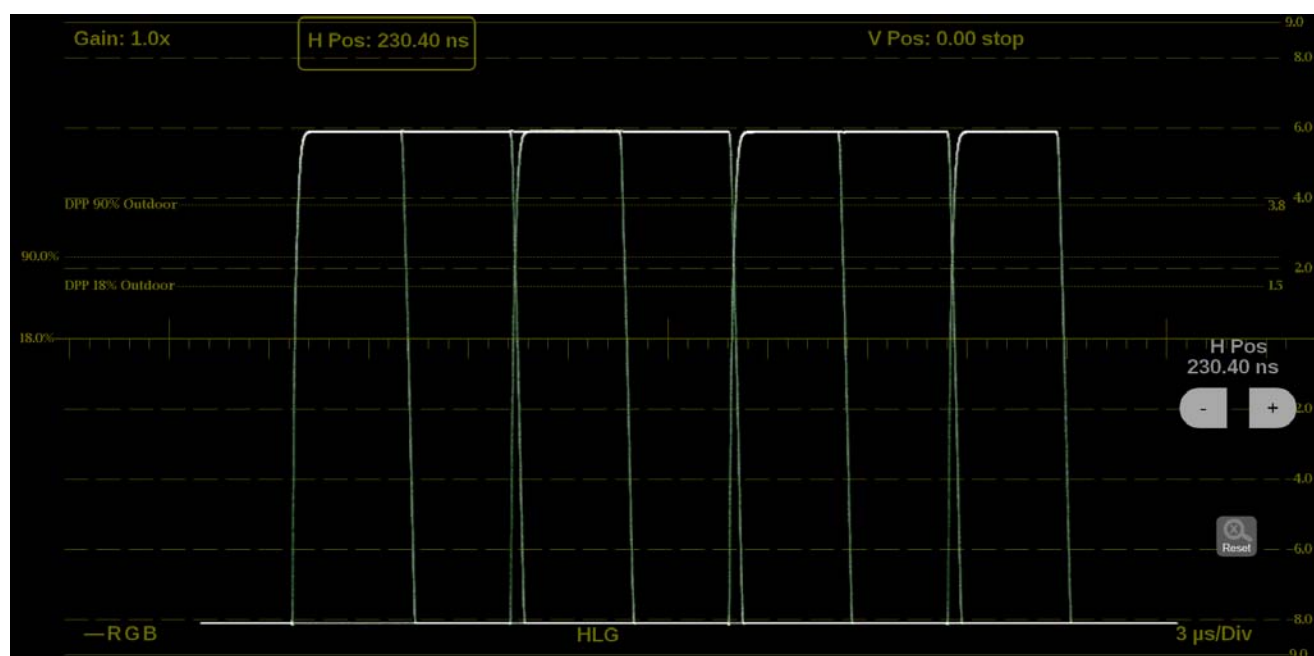

Figure 85: Stop Display on-screen tools – horizontal position
1. Touch the **H Pos** button to allow adjustment of the horizontal trace. (See Figure 85.)